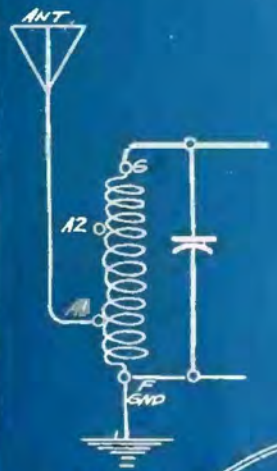
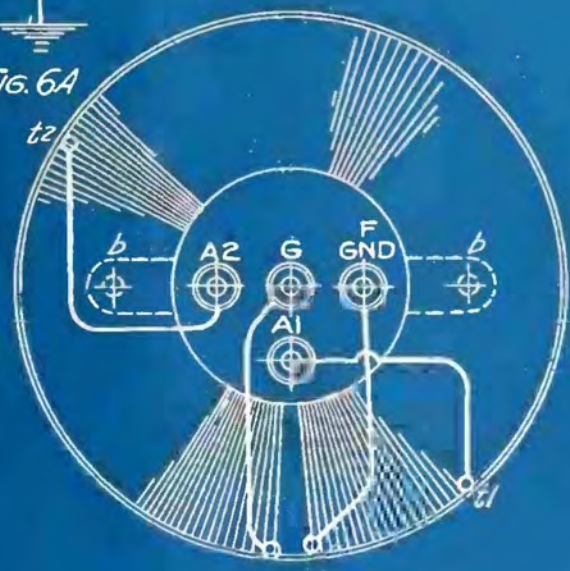

FIG. 6A
FIG. 6
A single circuit coupler is shown by Fig. 6. It consists of a single continuous winding which terminates at the posts (G) and (F) and is tapped at the points (t1) and (t2) for the connection of the antenna. The schematic diagram of the equivalent solenoid coil is shown by Fig. 6A which is lettered to correspond to the coupler drawing. This single circuit coupler is used for the antenna coupler as installed at (L1) in Fig. 1, and the two taps (A1) and (A2) provide for different degrees of sharpness or broadness in the tuning.
Looking at the coils, it will be seen that the antenna coupler (L1) is of the single circuit type illustrated by Fig. 6 and carries the two corresponding antenna taps (A1) and (A2) for sharp and broad tuning respectively. The posts are connected to the terminals (ANT-1) and (ANT-2) on the left end of the sub-panel where the proper antenna connection can be found by experiment.